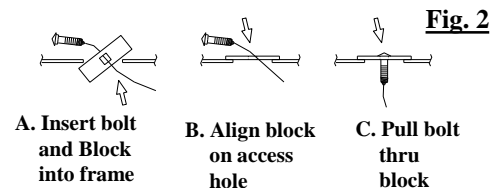

Fig. 2
①	Qty. (2)	8mm x 1.25 x 55 CL9.8 Hex Bolt	⑥	Qty. (1)	1/4" X 1.50 X 3.00 Square Holed Spacer Block
②	Qty. (4)	1/2" Flat Washer	⑦	Qty. (1)	3/8" X 1.50 X 2.00 Round Holed Spacer Block
③	Qty. (2)	3/8" Conical Washer	⑧	Qty. (1)	1/2" Conical Washer
④	Qty. (2)	8mm x 1.25 Hex Nut	⑨	Qty. (1)	1/2"-13 Hex Nut
⑤	Qty. (1)	1/2"-13 x 2.25 GR 5 Carriage Bolt	⑩	Qty. (1)	1/2" Bolt Leader
1. Remove existing **INNER** tail pipe hanger 8mm bolt and replace with supplied 8mm bolt (1). Tighten bolt to specification
2. Using supplied bolt leader install carriage bolt (5) and spacer block (6) into passenger side hole in rear suspension as shown, see figure 2.